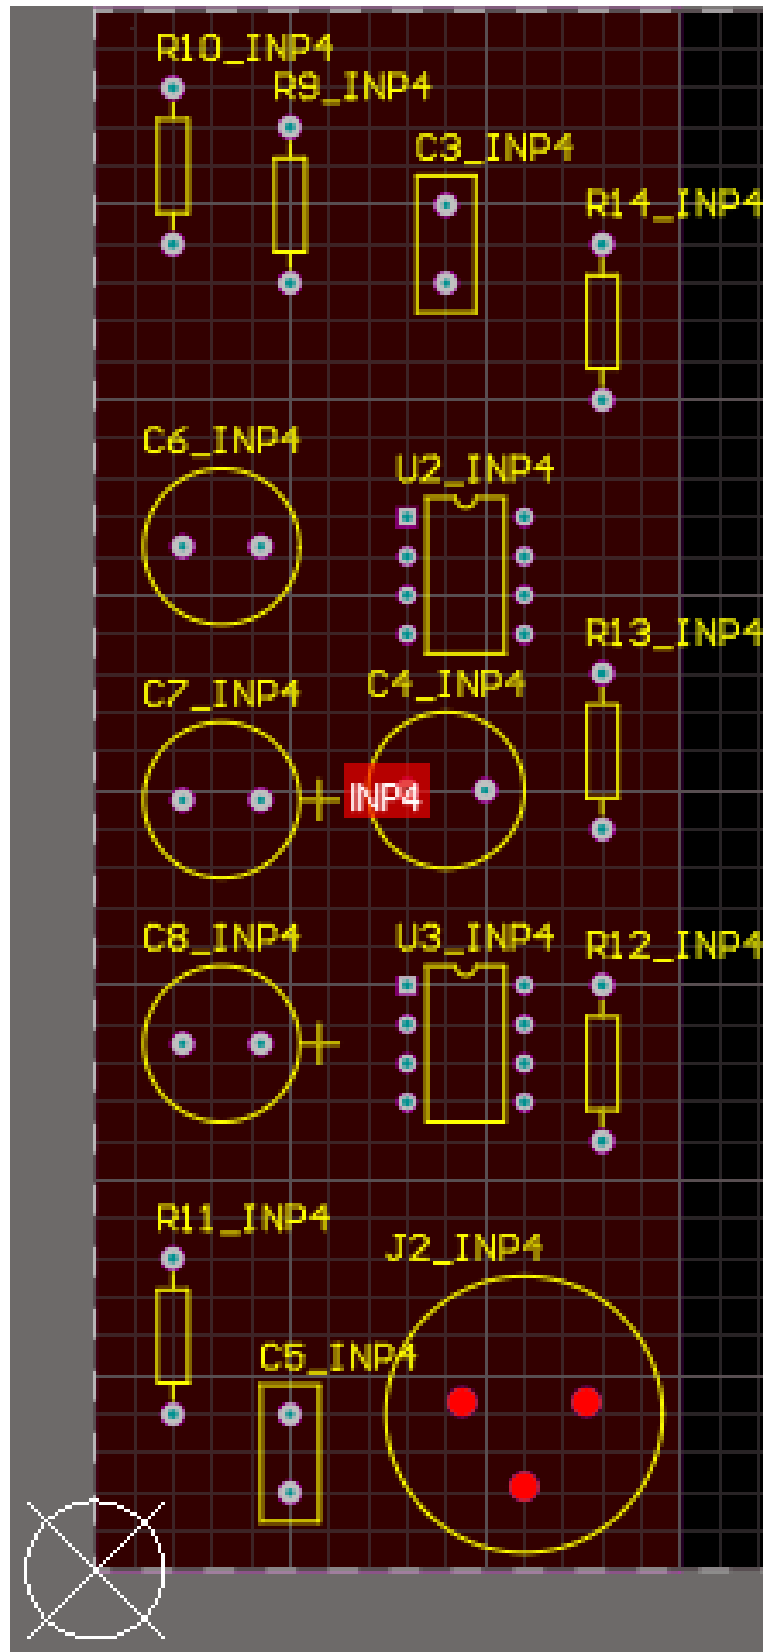

Figure 7. Resizing and position components in Room 4
19. Take the components that belong to the room, and manually position them roughly as shown in Figure 7.